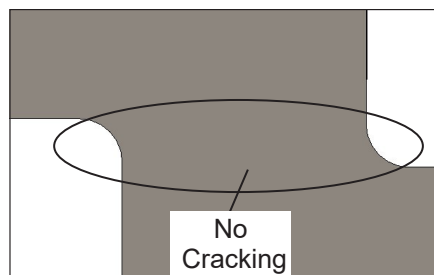
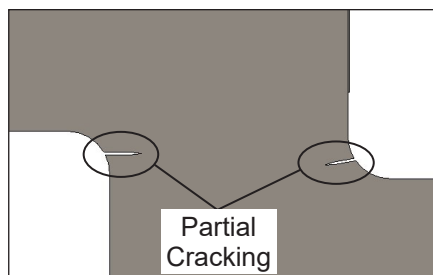

**Figure 6 — Inspection Areas A and B Details**
**Figure 7 — Inspection Areas C and D Details**
4. Using a flashlight, visually inspect for any cracking in the steel side plates in the cross-hatched areas shown in Figure 6 for the street side and in Figure 7 for the curb side.